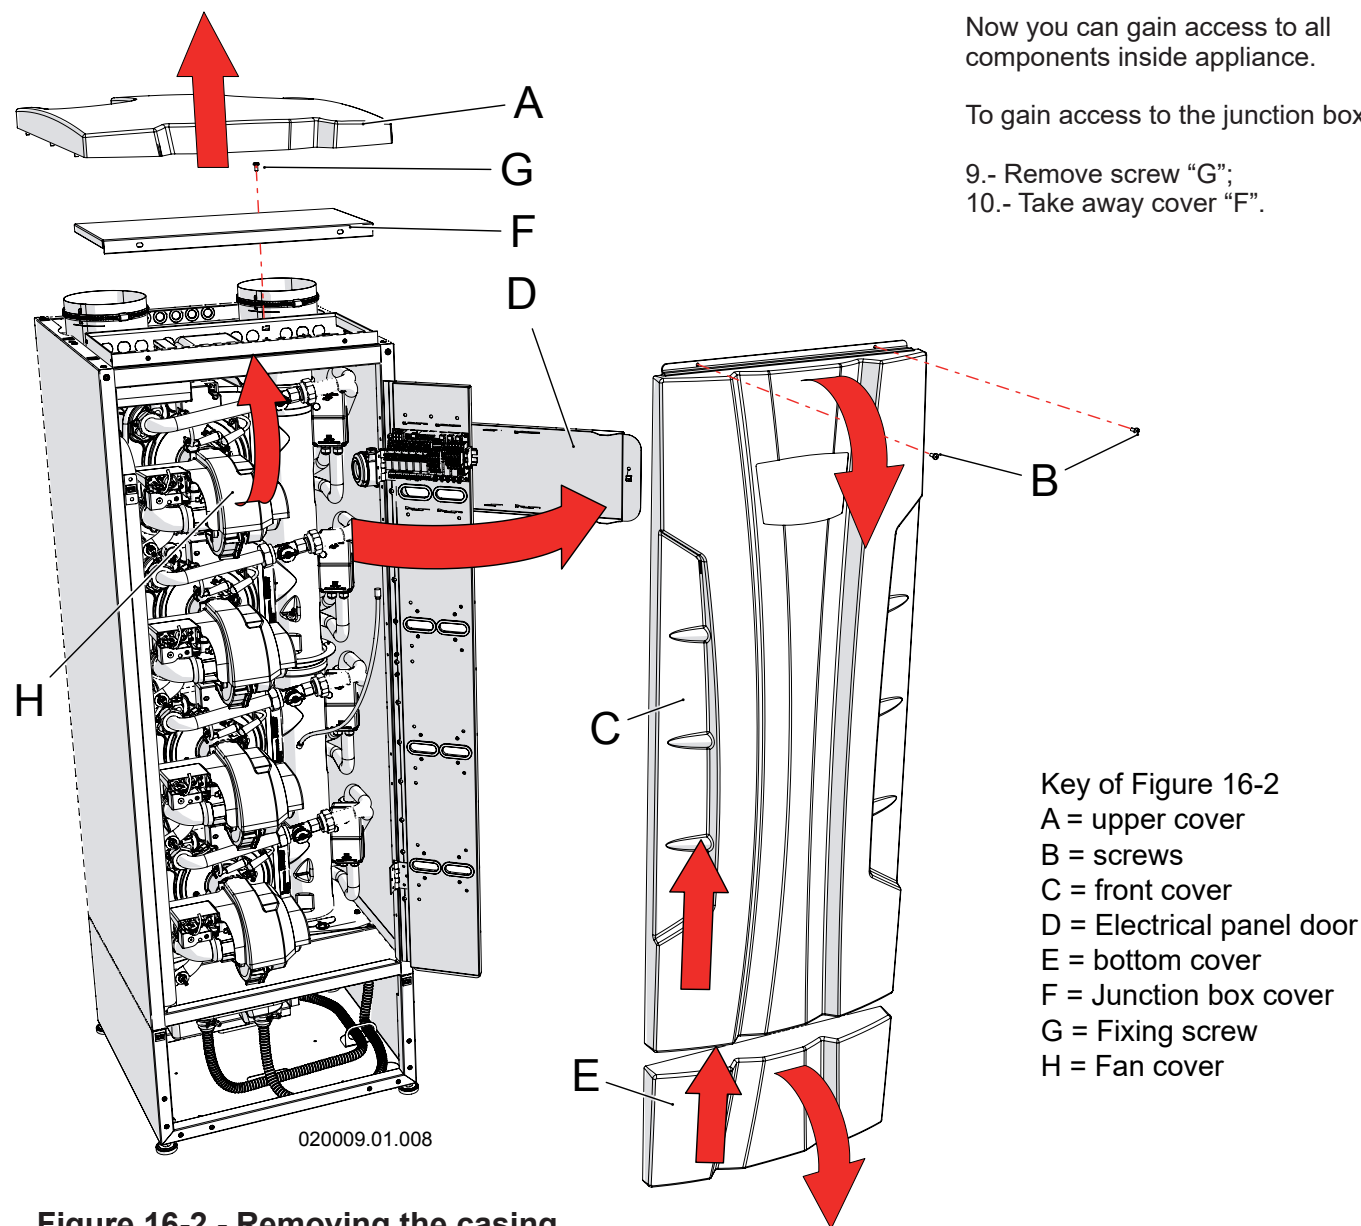

Figure 16-2 - Removing the casing
In order to remove the casing, follow the steps below while referring to Figure 16-2:
- 1.- Follow the steps in Section 16.2 to remove cover "E" of Figure 16-2;